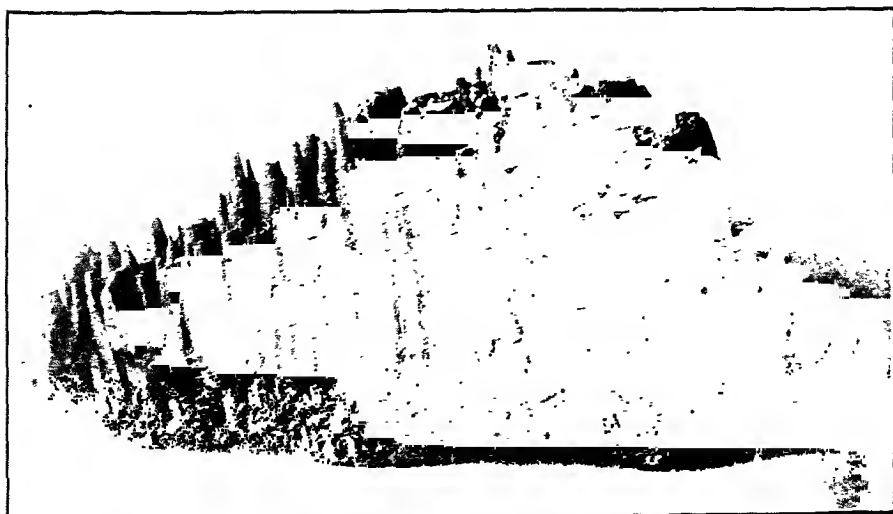

Figure 205. Limonite. Stalactitic
*Form:* never crystallized; usually amorphous, but not infrequently botryoidal or stalactitic, figure 205, concretionary (either oolitic or